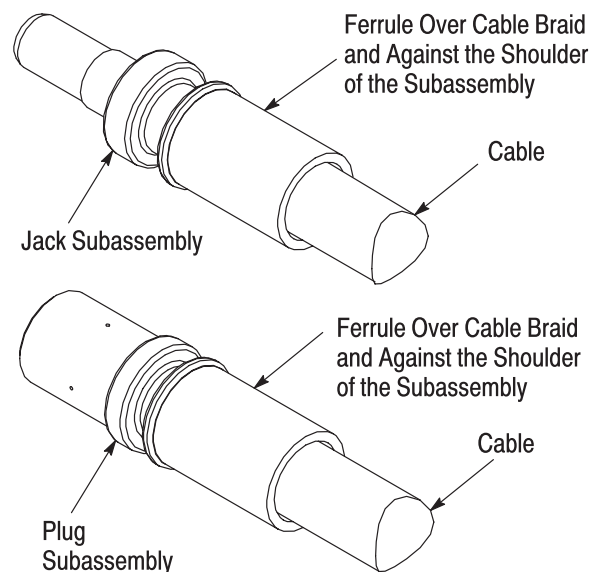

Figure 5
1. Slide the ferrule over the the cable braid until the ferrule butts against the shoulder of the assembly. See Figure 5.